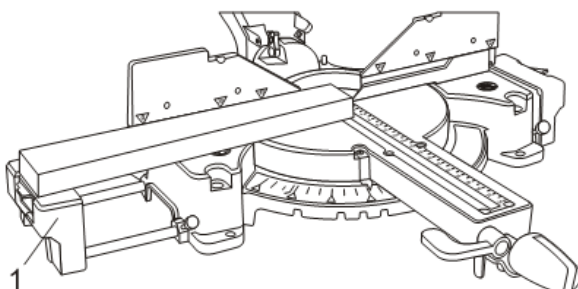

Fig. 22
When cutting longer workpieces, always use the base extension supports (1) for more accurate cutting and to help prevent the long workpiece from sagging (Fig. 22).